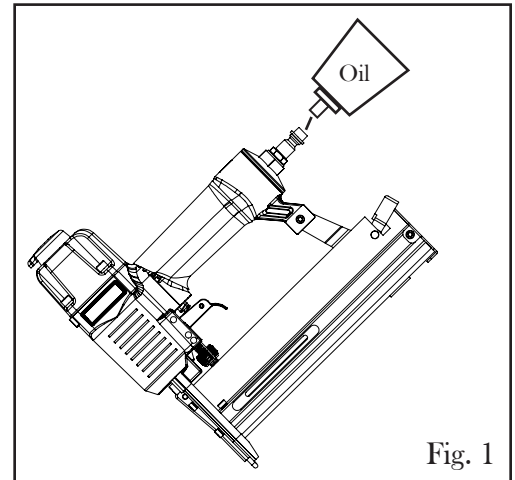

Fig. 1
LUBRICATING THE TOOL (Fig. 1)
2. Turn the tool so the air inlet is facing up. Open the protective cap. Place 3 to 4 drops of air tool lubrication oil into the air inlet (Fig. 1).